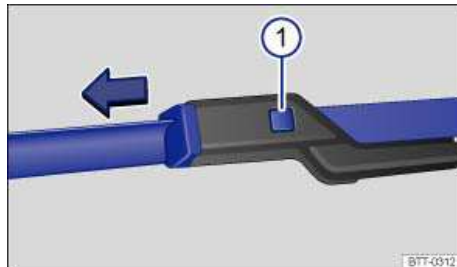

Fig. 144 Changing the windshield wiper blades.
- Press and hold the release button ⇒ fig. 144 (1).